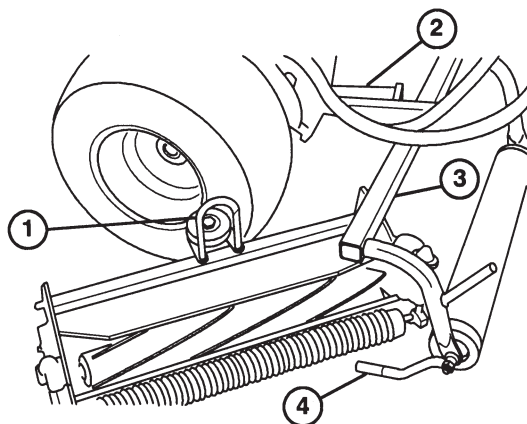

Figure 1
2. Slide the cutting units under the pull frames and position the hoop on the top of cutting units over the lift arms (Fig. 1).